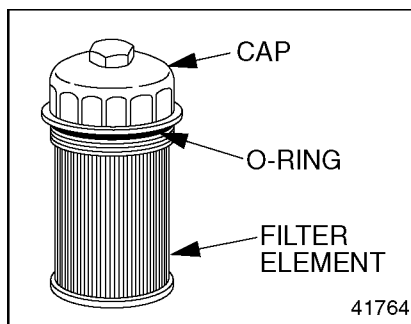

Figure 35 Cap with Oil Filter Element
edge of the filter element to the side. See Figure 35.
6. Replace the O-ring on the cap. See Figure 35.